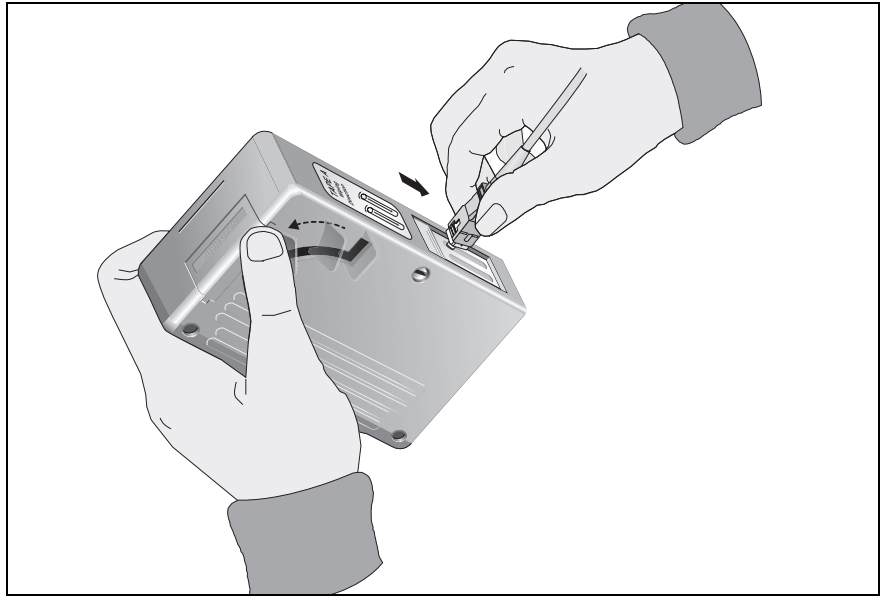

Figure 106. Rubbing the Ferrule Tip on the Cleaning Surface
1. With one hand, hold the cartridge cleaner and push the lever on the cleaning cartridge in the direction of the arrow to expose the cleaning surface, as shown in Figure 106 on page 183.
2. Place the ferrule tip on the exposed cleaning surface and rub the ferrule in a downward direction, as shown in Figure 106.